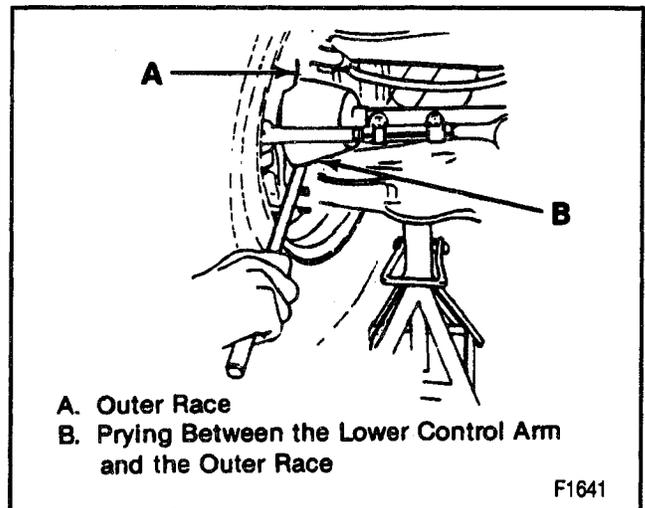

Figure 4—Checking Ball Joint Vertical Looseness
- Pry between the lower control arm and the outer race while reading the dial indicator. This will show vertical looseness in the ball joints (Figure 4).